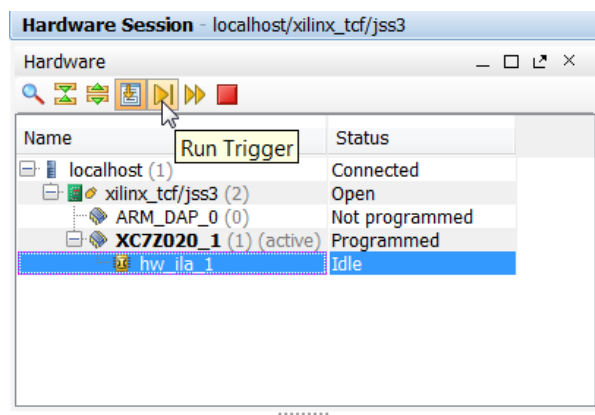

Figure 73: Run Trigger
- In the Hardware window, select the hw_ila_1 core, then click the **Run Trigger** button (Figure 73).